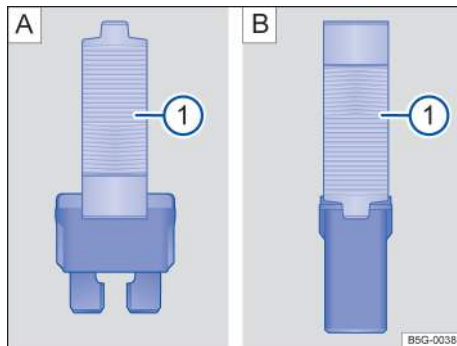

Fig. 159 Removing or installing a blade fuse with the plastic tweezers: **A**: Blade fuse. **B**: JCASE® fuse.
- Depending on the type of fuse, slide the tweezers → fig. 159 A ① or → fig. 159 B ① onto the fuse from the side.